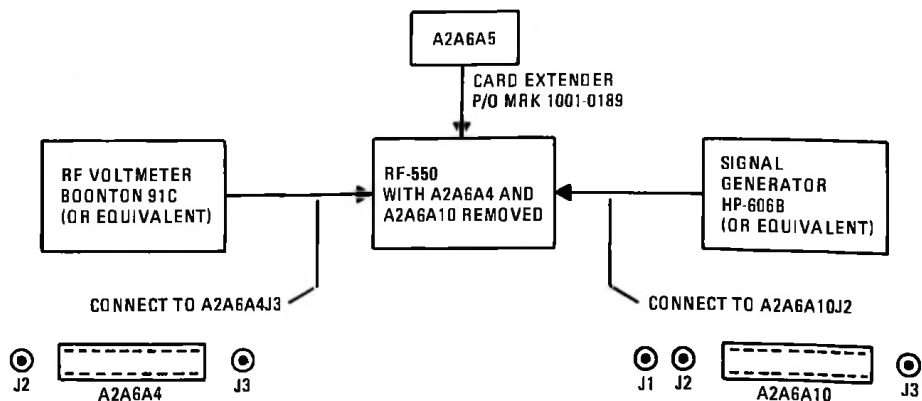

Figure 2. PWB A2A6A5 Test Setup Diagram
Paragraphs 5.1 and 5.2 give the information necessary for testing and adjusting PWB Assemblies A2A6A4 and A2A6A5. For these tests and adjustments, the RF-550 is placed on a bench with test connections made as shown in figures 2, 3, and 4, and AFC and coherent AGC selected at RF-550 front panel. The pw boards are shown schematically in figures 6 and 8.
b. Make test connections as shown in figure 2.